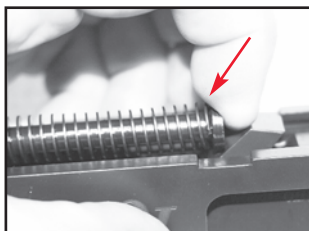

Figure 31
4. Compress the Recoil Spring slightly and seat against the Barrel. See Figure 31.